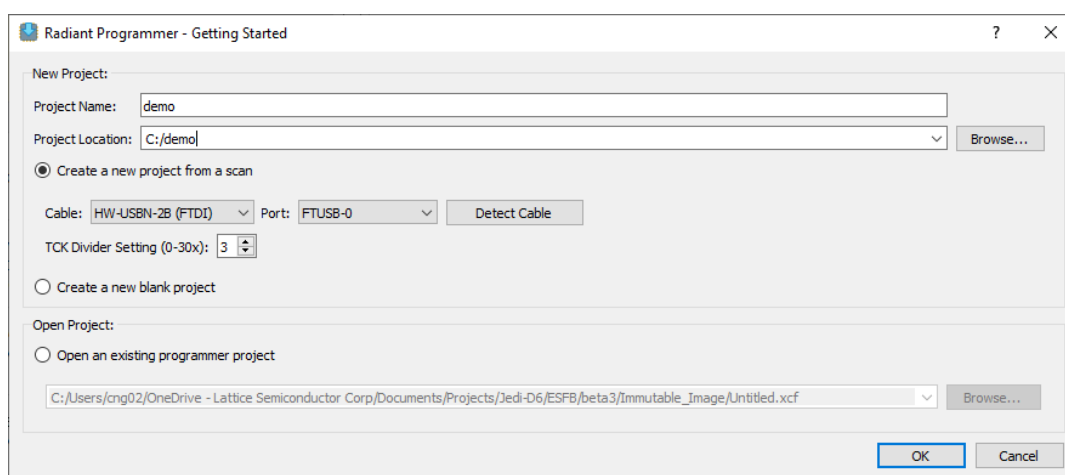

Figure 6.6. Create New or Open Existing Project Window
- Fill in the necessary information to create a new project or open an existing project. See Figure 6.6.